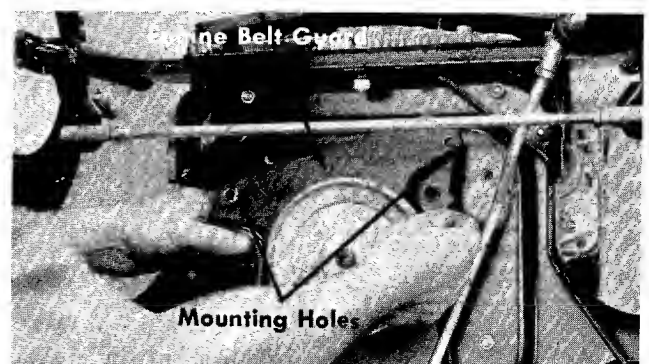

**FIGURE 31. DECK LINKS**
- Step 6. Remove the front four deck links from the cutting deck. See figure 31.
- Step 7. Remove the belt guards from both deck pulleys. See figure 31.
- Step 7. Tip the deck down as shown in figure 31.